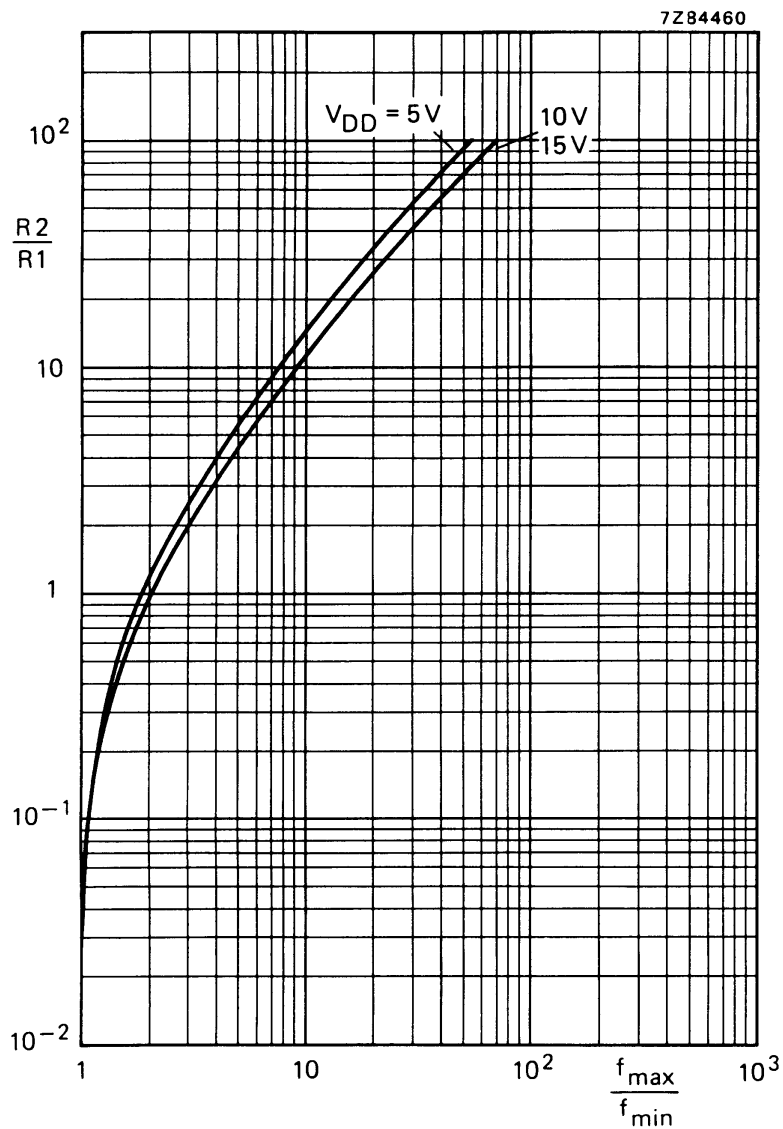

Fig.9 Typical ratio of R2/R1 as a function of the ratio $f_{\max}/f_{\min}$.
- Given f_o and f_L : calculate f_{min} from the equation $f_{min} = f_o - f_L$; use f_{min} with Fig.8 to determine R2 and C1; calculate $\frac{f_{max}}{f_{min}}$ from the equation $\frac{f_{max}}{f_{min}} = \frac{f_o + f_L}{f_o - f_L}$; use $\frac{f_{max}}{f_{min}}$ with Fig. 9 to determine the ratio R2/R1 to obtain R1.
- Given f_{min} and f_{max} : use f_{min} with Fig.8 to determine R2 and C1; calculate $\frac{f_{max}}{f_{min}}$; use $\frac{f_{max}}{f_{min}}$ with Fig.9 to determine R2/R1 to obtain R1.